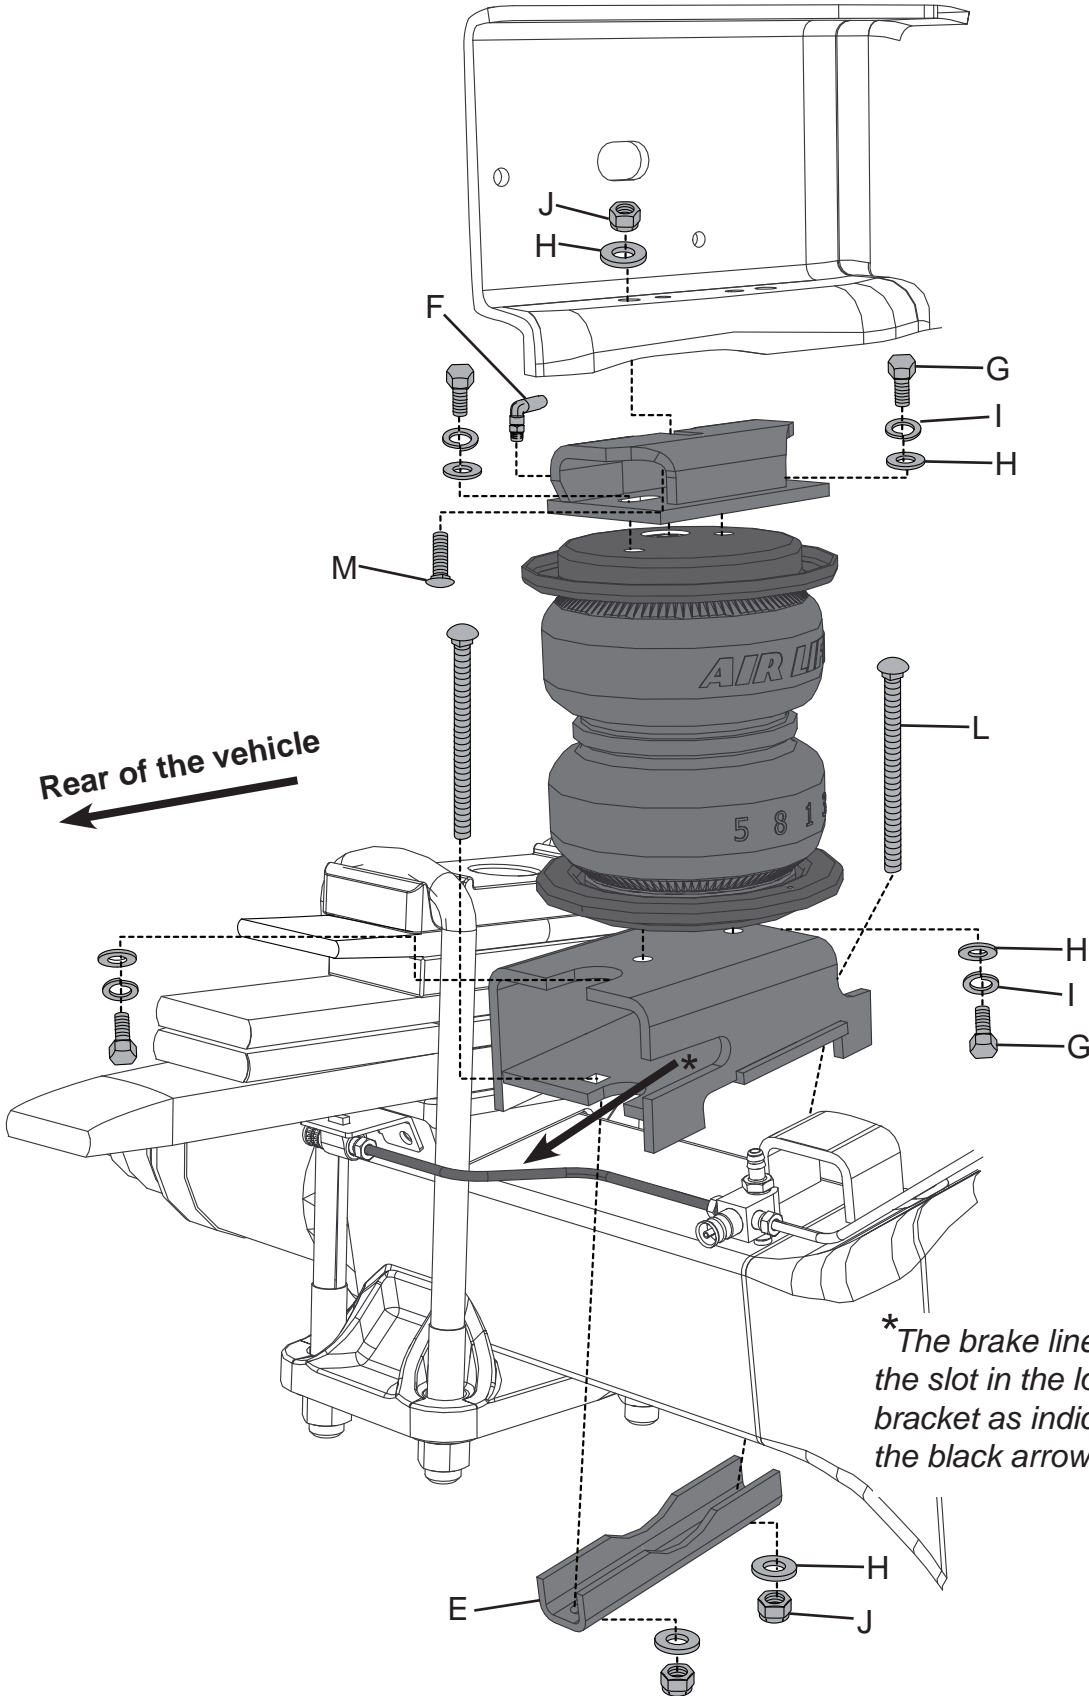

fig. 1
*Not shown in fig. 1.
The lower brackets have slots and grooves that correspond with the brake line. Be sure these are facing the rear of the vehicle (fig. 1).
2. Set the clamp bar (E) onto the carriage bolt (L) and cap with a 3/8" flat washer (H) and nyloc nut (J) (fig. 1). Leave loose at this time.
1. Insert the 3/8" carriage bolt (M) into the slot on the middle of the upper bracket (fig. 1).
2. While positioning the corresponding assembly (driver side or passenger side) under the frame, insert the carriage bolt up through the existing jounce bumper hole in the frame (fig. 1).
3. Once the upper bracket is flush to the bottom of the frame, cap the 3/8" carriage bolt (M) with a flat washer (H), and a 3/8" nyloc nut (J). Tighten securely at this time.
1. With the clamp bar still loose on the lower bracket, line up the holes in the roll plate/bellows with the holes in the lower bracket and insert two 3/8" bolts (G), lock washers (I), and flat washers (H) (fig. 1). Tighten securely.
2. Position the lower bracket (in or out) to line up the bellows so that it is perpendicular to both the upper and lower brackets. Torque the clamp bar nuts to 16 ft/lbs (fig. 1). Repeat for the opposite side.